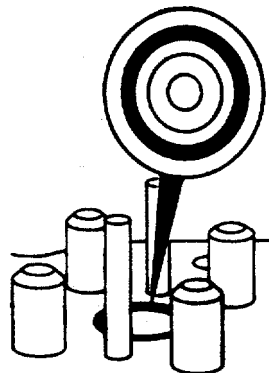

FIGURE 4-19. Prussian Blue Pattern.
- (j) Check the contact pattern in the injector bore (FIG. 4-19). A blue band at least 0.060 inch (1.52 mm) wide and 360 degrees full circumference must be visible. If pattern is not to specifications, clean bore with a tapered brush and recheck. If the pattern is still not to specifications, replace the cylinder head.